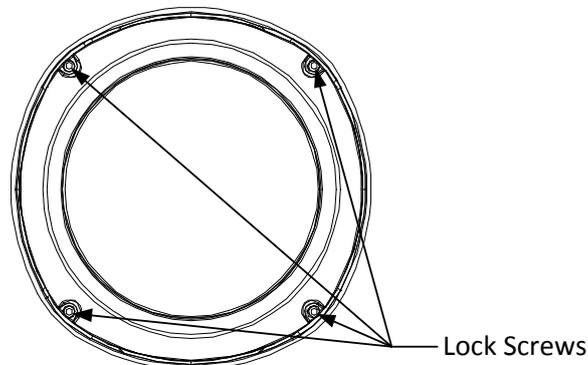

Figure 3-12 Loosen the Lock Screws
1. Loosen the 4 lock screws on the flange of the speed dome; refer to the Figure 3-12.